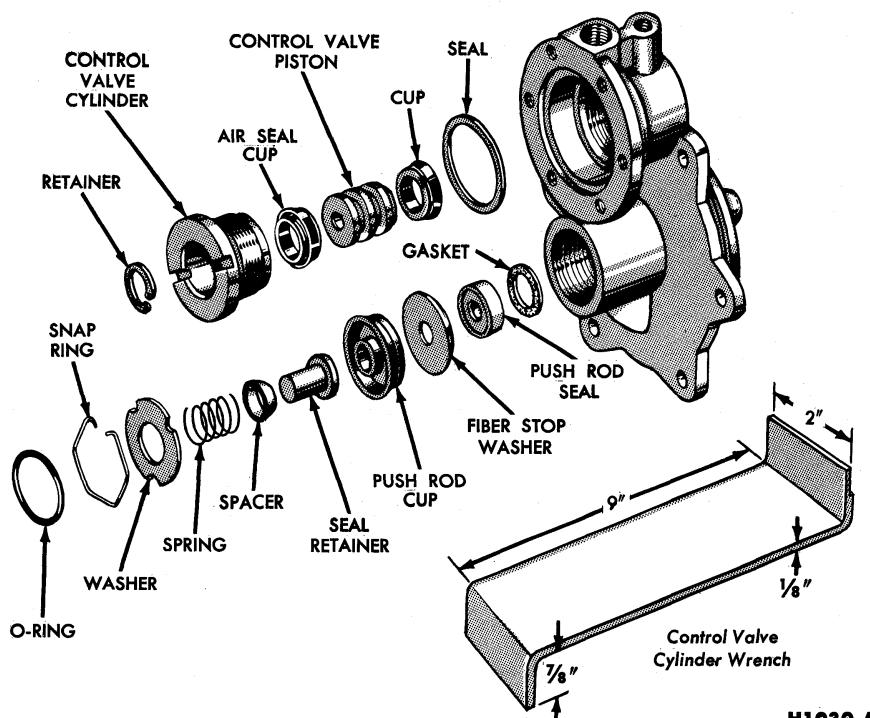

FIG. 5—End Plate—Disassembled
3. Remove the hydraulic piston O-ring (Fig. 5). Remove the snap ring, washer, seal retainer and spacer, cup, fiber stop washer, and spring from the bore of the end plate.
5. With a special tool (Fig. 5), remove the control valve cylinder
5. Position the seal retainer and spacer in the bore, with the counterbore of the retainer next to the cup (Fig. 5). Install the spring and washer.
8. Screw the control valve cylinder into the end plate assembly. Tighten the cylinder using the tool shown in Fig. 5.